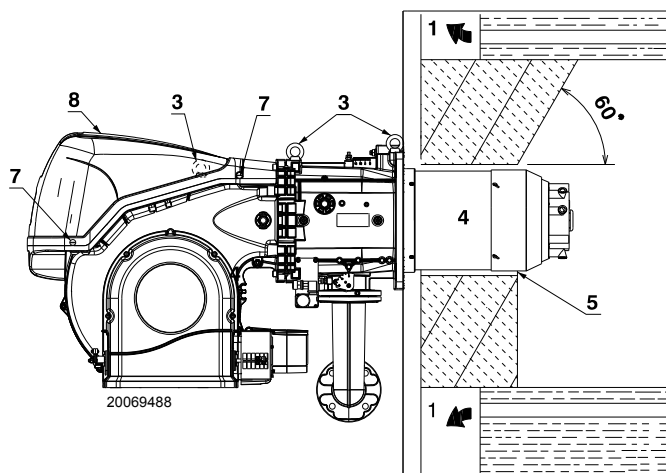

Fig. 13
For boilers with front flue passes 1)(Fig. 13) or flame inversion chamber, a protection in refractory material 5) must be inserted between the boiler fettling 2) and the blast tube 4).
For boilers with a water-cooled front piece, a refractory lining 2)-5)(Fig. 13) is not necessary, unless expressly requested by the boiler manufacturer.
Prepare a suitable lifting system using the rings 3) (Fig. 13), after removing the fixing screws 7) of the casing 8).
- Fit the heat insulation supplied onto the blast tube 4)(Fig. 13).